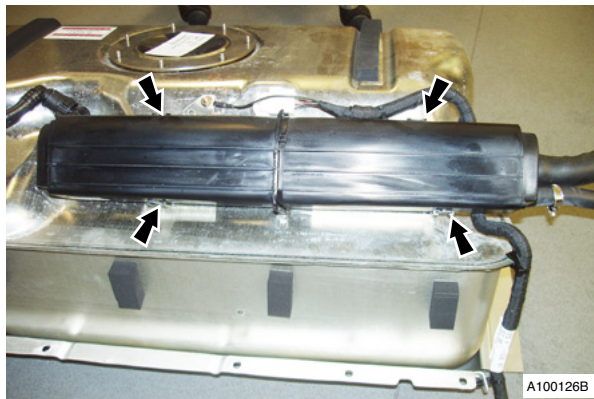

Fig. 12
- Remove carbon canister from fuel tank (clips 4) (see Fig. 12)